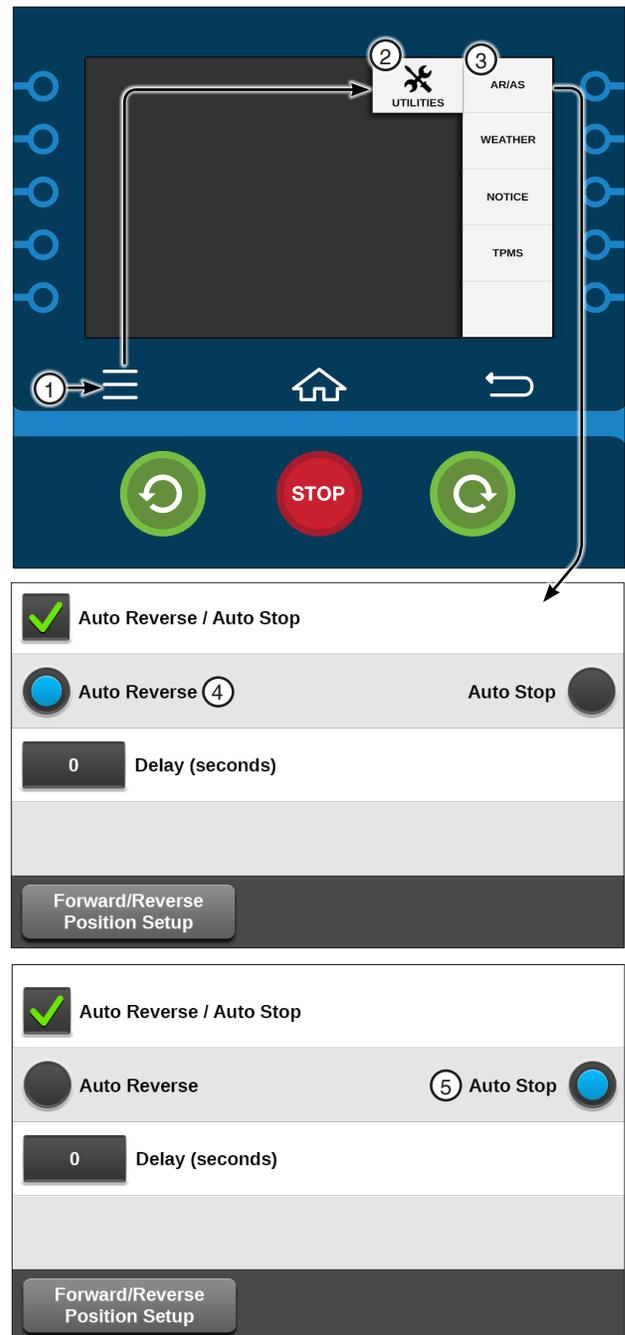

Figure 71-1 1. Menu
Auto Reverse Auto Stop (AR / AS) is used to enable Auto Reverse / Auto Stop, set the delay time when a machine is equipped with a drive-unit-mounted end-of-field Auto Reverse / Auto Stop and to set points at which the machine will switch directions. Refer to Figure 71-1.
- **Auto Reverse** If AR / AS is on, Water is on and the Auto Reverse / Auto Stop option is set to Auto Reverse, when the actuator arm is tripped or when the forward/reverse boundary is reached the machine changes direction, disables the percent timer, waits for the set AR / AS delay time and then enables the percent timer and continues running. Refer to Figure 71-1.
- **Auto Stop** If AR / AS is on, Water is on and the Auto Reverse / Auto Stop option is set to Auto Stop, when the actuator arm is tripped or when the forward / reverse boundary is reached the machine changes directions, disables the percent timer, waits for the set AR / AS delay time and then shuts down. Refer to Figure 71-1.